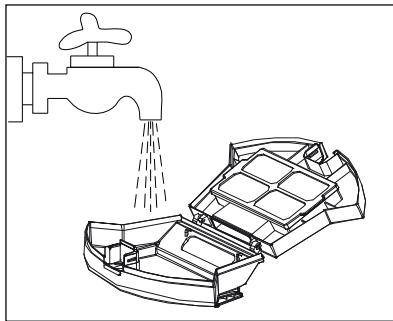

Fig. 12
- 6) Clean the dust container 14 and the sieve filter with cold or lukewarm water (see Fig. 12). Allow the dust container 14 and sieve filter to air dry completely before reinserting the dust container 14 into the appliance.